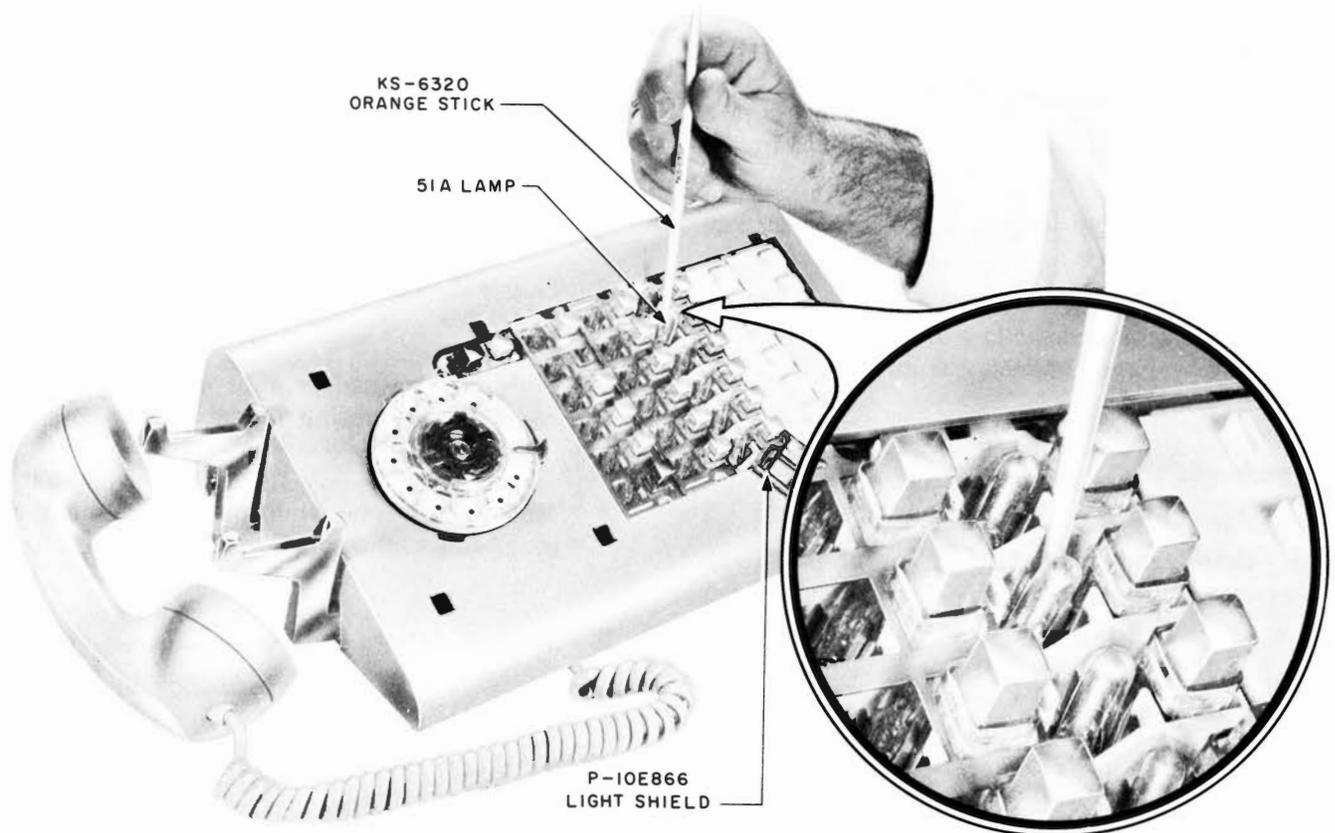

Fig. 6—639-Type Telephone Set Showing Removal of 51A Lamp
2. Insert tip of orange stick beneath the raised lamp capsule and lift lamp from its socket. (See Fig. 6.)